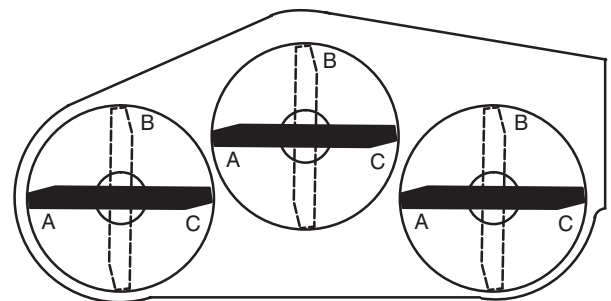
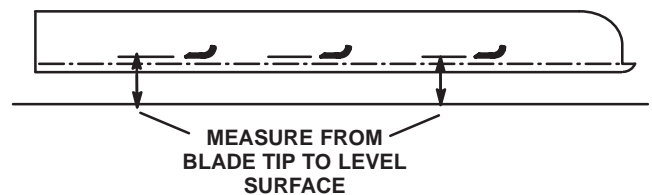

Figure 29
Figure 30
- Position all 3 blades in the “A” position (Fig. 29) and measure from the level surface to the bottom of the tip end of each blade (Fig. 30).
- Note the measurement attained at “A”, rotate the blades to the “B” position (Fig. 29), measure the distance of all of the blades to the level surface, and note the dimensions (Fig. 30).
- Rotate the blades to the “C” position, measure, and note the distance measured (Fig. 29 and 30).